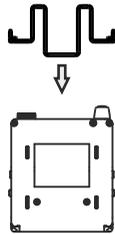

Fig. 38-1
(A) Assemble the belt-clip with the transmitter, Fig. 38-1, and install the holder on the belt-clip, Fig. 38-2.